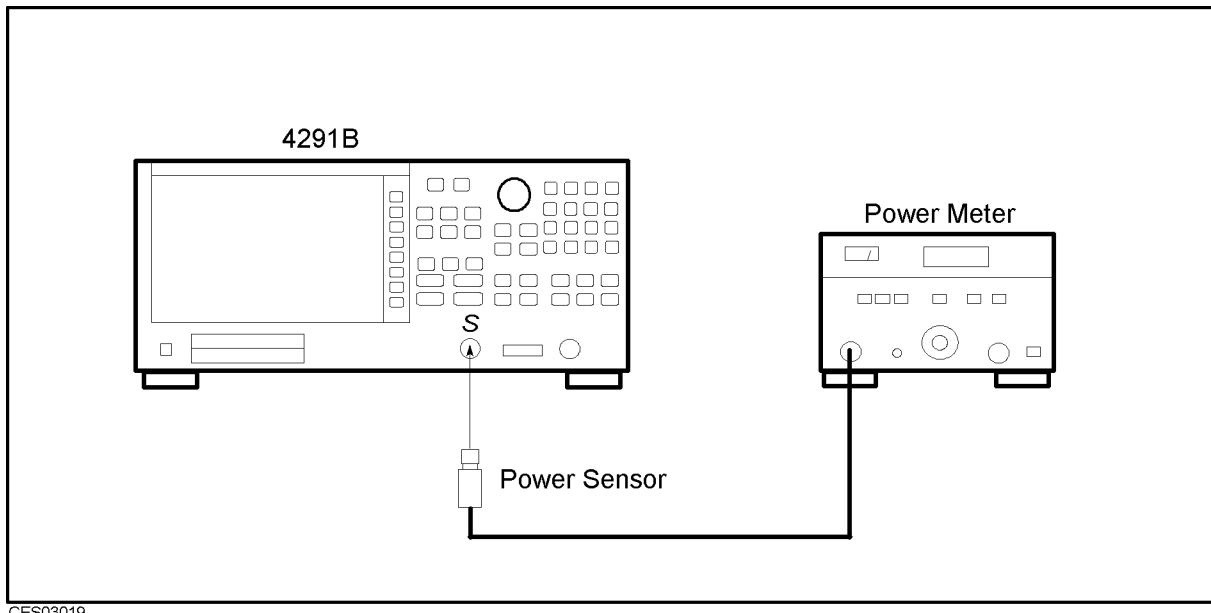

Figure 7-23. A3A3 RF Signal Test Setup
- b. Connect the equipment as shown in Figure 7-23.
The A7 Output Attenuator is controlled by the three lines at A7J1, A7J2, and A7J3 as shown in Figure 7-23. Perform the following steps to verify the A7 control signals: